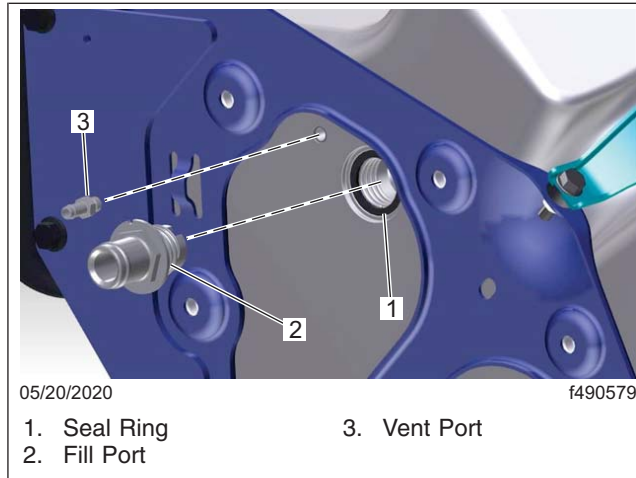

Fig. 2, Positioning the Seal Ring in the Seal Groove on the DEF Tank
1. Separate the seal ring from the fill fitting and coat it with P80 Emulsion, or equivalent rubber lubricant, and position it in the seal groove on the tank. See Fig. 2.